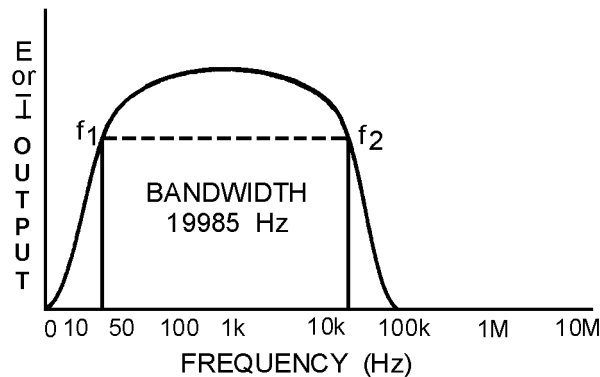

Figure 2-1.—Frequency response curve of audio amplifier.
Note the frequency-response curve shown in figure 2-1. This is the frequency-response curve for an audio amplifier as described in chapter 1. It is "flat" from 15 hertz (15 Hz) to 20 kilohertz (20 kHz).
The bandwidth represents the amount or "width" of frequencies, or the "band of frequencies," that the amplifier is MOST effective in amplifying. However, the bandwidth is NOT the same as the band of frequencies that is amplified. The bandwidth (BW) of an amplifier is the difference between the frequency limits of the amplifier. For example, the band of frequencies for an amplifier may be from 10 kilohertz (10 kHz) to 30 kilohertz (30 kHz). In this case, the bandwidth would be 20 kilohertz (20 kHz). As another example, if an amplifier is designed to amplify frequencies between 15 hertz (15 Hz) and 20 kilohertz (20 kHz), the bandwidth will be equal to 20 kilohertz minus 15 hertz or 19,985 hertz (19,985 Hz). This is shown in figure 2-1.
On figure 2-1, the two points marked f_1 and f_2 will enable you to determine the frequency-response limits of the amplifier. In this case, the limits are 15 hertz (15 Hz) and 20 kilohertz (20 kHz). You should now see how a frequency-response curve can enable you to determine the frequency limits and the bandwidth of an amplifier.
Figure 2-2 shows the frequency-response curves for four different amplifiers. View (A) is the same frequency-response curve as shown in figure 2-1. View (B) is the frequency-response curve of an amplifier that would also be classified as an audio amplifier, even though the curve is not "flat" from 15 hertz to 20 kilohertz and does not drop off sharply at the frequency limits. From the curve, you can see that the lower frequency limit of this amplifier (f_1) is 100 hertz. The upper frequency limit (f_2) is 10 kilohertz. Therefore, the bandwidth of this amplifier must be 10 kilohertz minus 100 hertz or 9900 hertz. Most amplifiers will have a frequency-response curve shaped like view (B) if nothing is done to modify the frequency-response characteristics of the circuit. (The factors that affect frequency response and the methods to modify the frequency response of an amplifier are covered a little later in this chapter.)